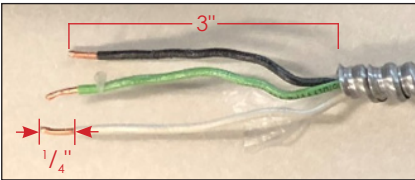

Figure 30: MC Cable
- a. Cut the metal protection ~3" to allow enough room for the wires to route to the terminals. Refer to **Figure 30**.
- b. Strip the wires ~1/4". Refer to **Figure 30**.